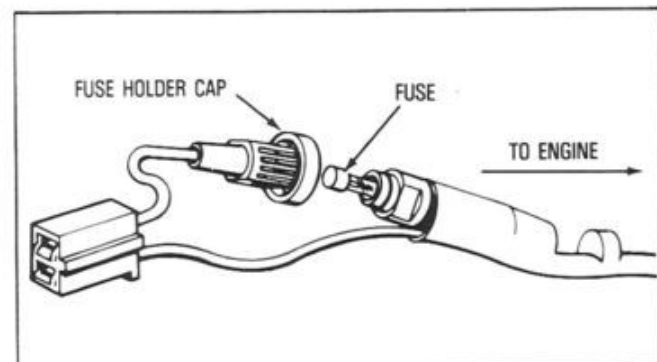

Figure 6
⑥ 3 AMP. ALTERNATOR (see Figure 6)